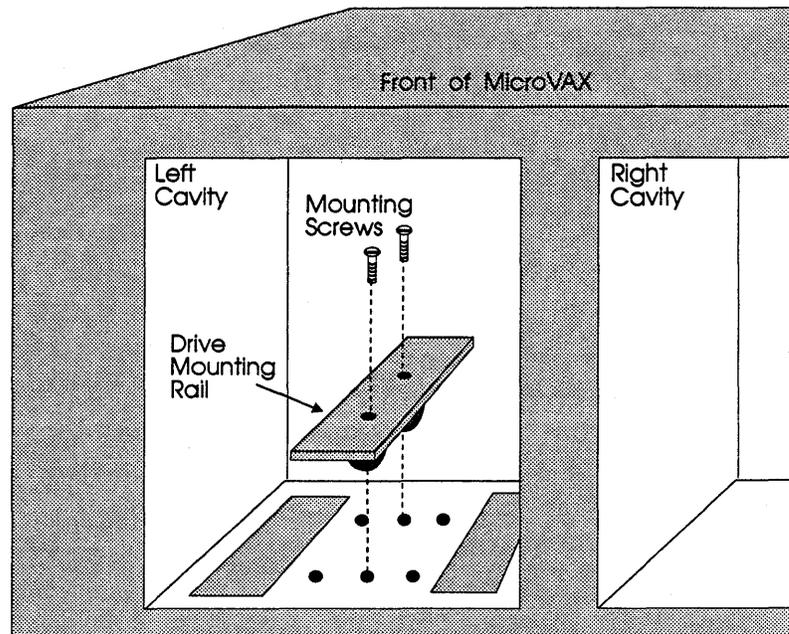

Figure 5-7: Installing the bracket into the MV cavity
- b Put two screws into the bottom of the MicroVAX cavity through the disk drive mounting rail. There are three sets of holes in the front and the back of the cavity; be sure you are putting the screws into the center holes. See Figure 5-7.